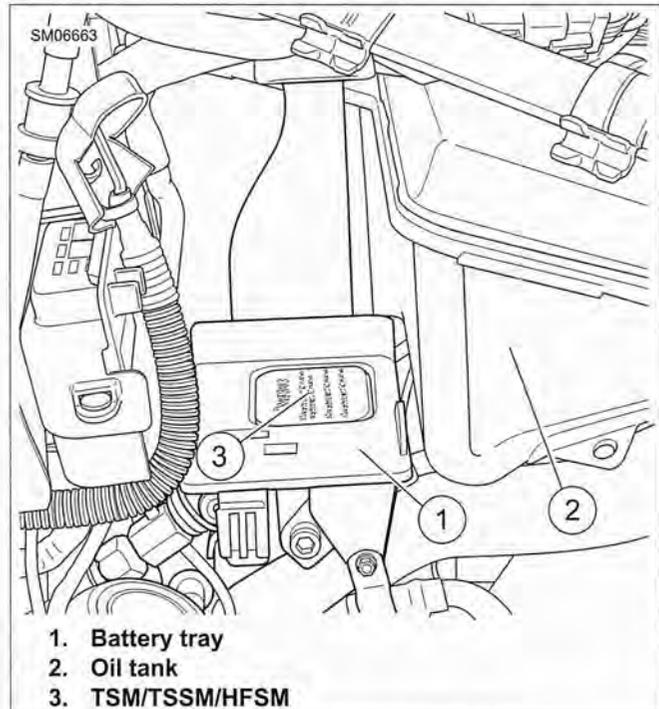
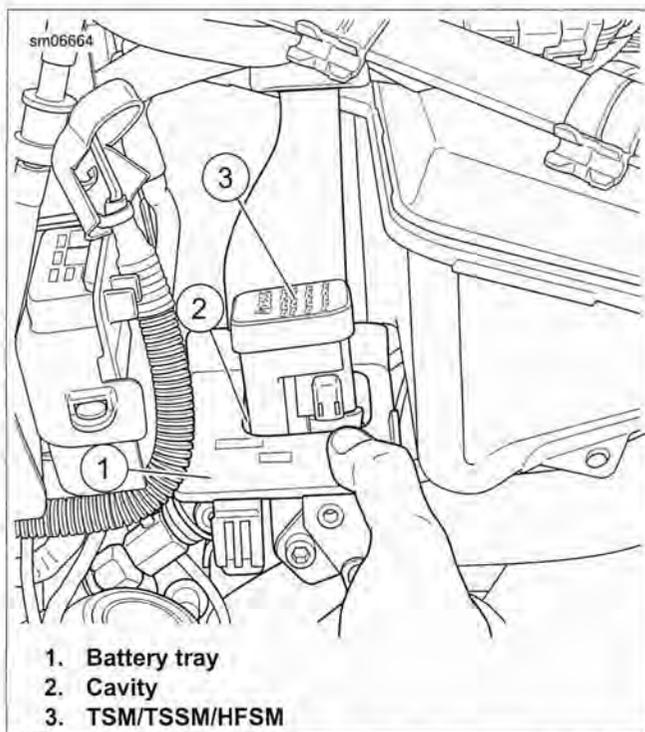

Figure 6-21. TSM/TSSM/HFSM Location: All Models
Figure 6-22. TSM/TSSM/HFSM Connectors: All Models
See Figure 6-21. The TSM/TSSM/HFSM (3) is located in a cavity in the bottom of the battery tray (1).
4. See Figure 6-22. Reach under the battery tray (1) and push upward on TSM/TSSM/HFSM (3) to lift it out of its cavity (2).
1. See Figure 6-22. Pull wiring harness connector [208] (HFSM only) and connector [30B] up through cavity (2) in bottom of battery tray (1).
2. Position TSM/TSSM/HFSM (3) over cavity with connector(s) facing oil tank.
3. Lower TSM/TSSM/HFSM into cavity. See Figure 6-21. Make sure top of TSM/TSSM/HFSM is flush with bottom of battery tray.